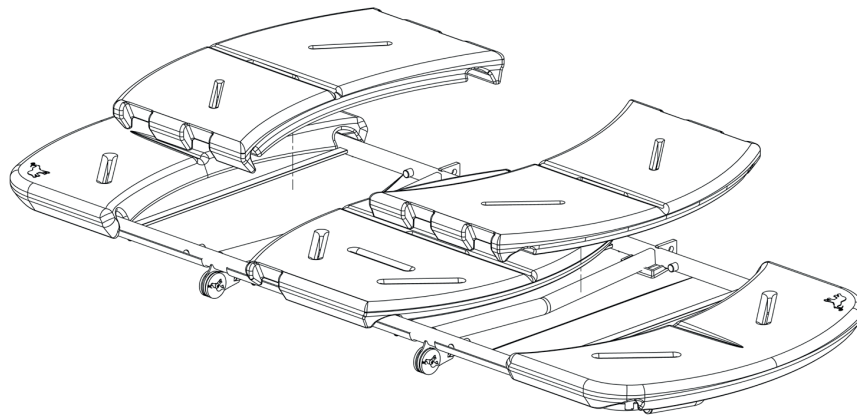

Fig 12.7a
Remove the pads by lifting them vertically as shown in Fig 12.7a to aid with installation.
- Once all the fasteners are secured, fold and stow to check the stretcher is moving freely and without restriction. Refit the pads as shown in Fig 12.7a.